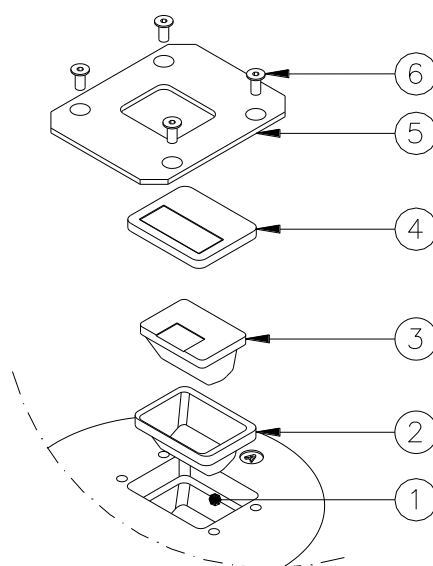

Figure 27 - Prism Replacement
- remove the mounting plate and filter holder (Figure 27 – n°4-5)
- remove the old prism and the gasket (Figure 27 – n°3-2)
- place a new gasket (Figure 27 – n°2) in the prism cavity on the dome (Figure 27 – n°1)
- position and press by hand the prism (Figure 27 – n°3) in the relevant seat
- position the filter holder and the mounting plate (Figure 27 – n°4-5) and fasten it with the relevant screws HSFH M5x12 (Figure 27 – n°6), tightening torque is 2.5 Nm